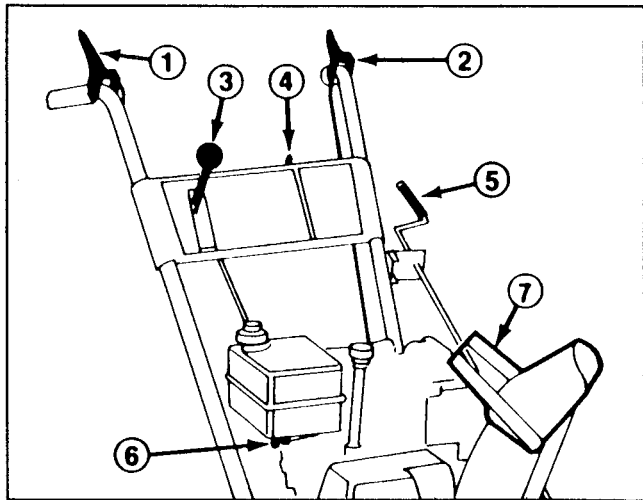
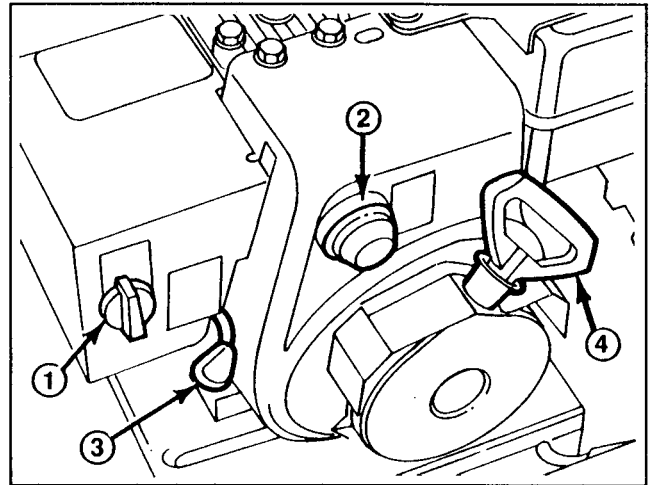
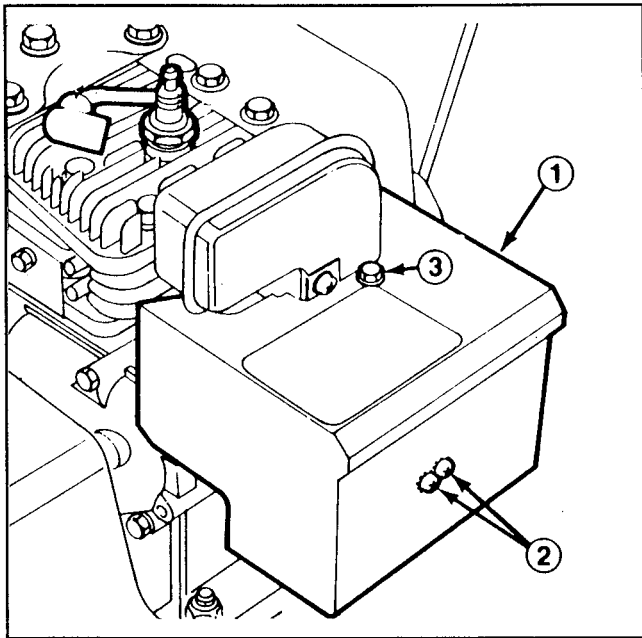

Figure 14
Figure 15
Figure 16
Auger Drive Control (Fig. 14)—Control has two positions: ENGAGE and DISENGAGE. To engage both auger and impeller, compress lever against right handgrip. To disengage, release lever.
Traction Control (Fig. 14)—To engage traction (wheel drive), lever must be compressed against left handgrip. To stop traction, release lever.
Speed Selector (Fig. 14)—The control has four positions: reverse, 1, 2 and 3. To change speeds, move gear shift to position desired. Lever will lock in notch at each speed selection. Use positions 1, 2 or 3 depending on snow conditions.
Ignition Switch (Fig. 14)—Switch has two positions: ON and OFF. Rotate key to ON position before starting engine with the recoil starter. To stop engine, rotate key to OFF.
Throttle (Fig. 15)—Moving the throttle upward increases engine speed.
Choke (Fig. 15)—Rotate choke to FULL choke position to start a cold engine. As engine warms up, move choke gradually to OFF.
Primer (Fig. 15)—Press primer to pump a small amount of gasoline into engine for improved cold weather starting.
Fuel Shut-Off Valve (Fig. 14)—Valve is located under fuel tank. Close valve to stop fuel flow from fuel tank and open valve to allow fuel to flow to the carburetor. Close valve when snowblower is not in use.
Discharge Chute Control (Fig. 14)—Rotate discharge chute control clockwise to move discharge chute to the left and counterclockwise to move chute to the right.
Recoil Starter (Fig. 15)—Recoil starter is on back side of engine. Pull recoil starter to start engine.
Chute Deflector Handle (Fig. 14)—Deflector handle is on top of discharge chute, and it is used to control height of the snow stream.
Note: If engine is operated when temperature is +40° F (4° C) or higher, remove carburetor heater box (Fig. 16). However, the heater box must be reinstalled when temperature falls below +40° F (4° C). To remove heater box:
- A. Remove (2) phillips screws and (1) hex head screw securing heater box in place (Fig. 16). Pull choke knob off choke rod (Fig. 15).
1. Move throttle (Fig. 15) to FAST.
2. Open fuel shut-off valve below fuel tank (Fig. 14).
3. Rotate choke (Fig. 15) to full choke position.
4. Rotate ignition key (Fig. 14) to ON.
6. Grasp recoil starter handle (Fig. 15) and pull it out slowly until positive engagement results; then pull vigorously to start the engine. Keep firm grip on starter handle and return the rope slowly.
7. After engine starts, immediately rotate choke (Fig. 15) to 3/4 position. As engine warms up, rotate choke to 1/2 position; then to OFF position. If engine falters, return choke to 1/2 position. When engine warms sufficiently, rotate choke to OFF position.
1. Release traction and auger drive controls (Fig. 14).
2. Move throttle (Fig. 15) to slow and rotate ignition key (Fig. 14) to OFF.